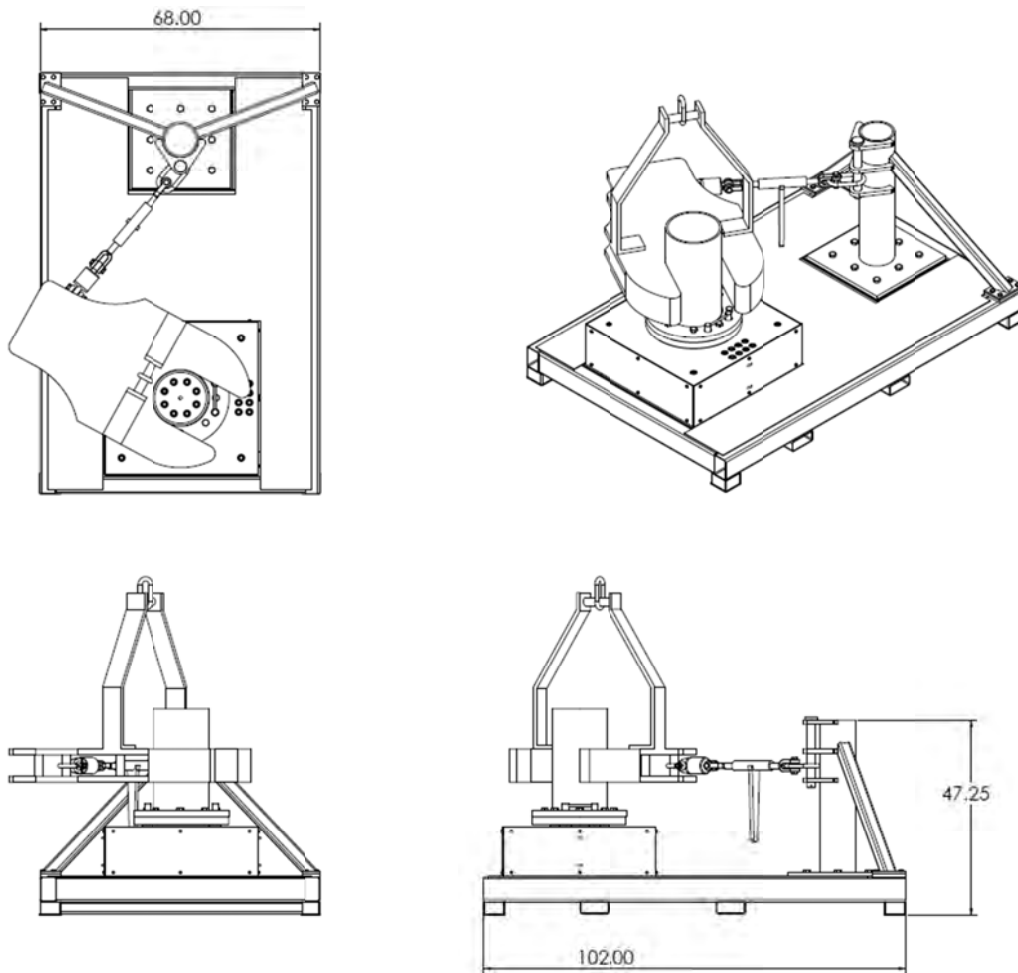

Figure 2
3. Attach the load cell to the ratchet turnbuckle, which is connected to the snub line post using a shackle. Turn ratchet to shorten or lengthen the snub line and adjust to 90 degrees (as seen in Figure 2)
9. Ensure tong and snub line are at a 90 degree angle as shown in Figure 2 before testing tong
Ensure tong and snub line are at a 90 degree angle as shown in Figure 2 and tong is level (front to back and side to side) so that the tong dies grip the mandrel uniformly
For breakout, follow rig up section instructions except tong is located on left side of test stand (viewing with back to the stub post). Load cell needs to be attached to the interior rear of the tong (opposite side as shown in Figure 2). TIOT recommends using the stop pins to simulate breakout. Pull the tong's valve activation lever to breakout and verify tong dies' grip mandrel uniformly. Torque to desired breakout setpoint.